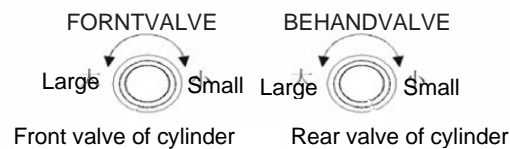

Figure 1
- (1) Connect the gas source and turn on the switch.
- (2) Check whether the air pressure meter is in the specified range. Otherwise, draw the air pressure knob upwards, rotate the pressure regulator until the pressure is in the specified range (0.4-0.5Mpa) and then stop turning the knob.
- (3) Use the functional switching switch to get the semiautomatic level so as to switch to the manual status and control the operation through foot switch.
- (4) During the adjustment, you can loose the adjustable handle on the adjustment block, rotate the handwheel, read the value on the position display and fasten the handle.
- (5) Adjust the front valve (for adjusting drawing speed) and behind valve (for adjusting filling speed) as shown in Figure 1 to get reasonable drawing and filling speed.